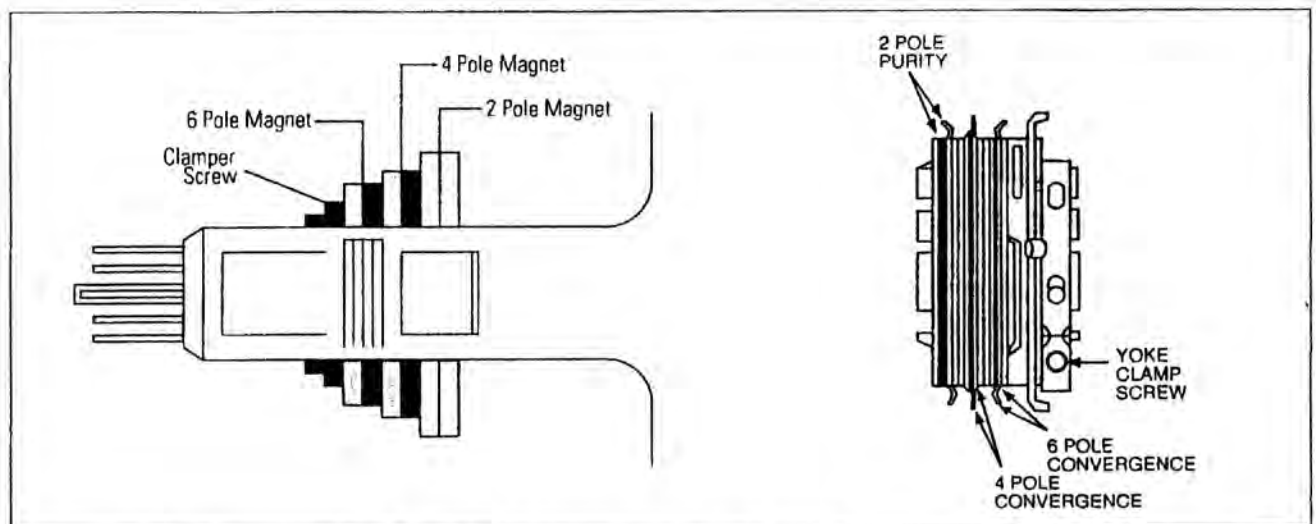

Fig. 4-1 Convergence Magnet Assembly
3. Plug the convergence yoke into the CRT and set in as shown in Fig. 4-1.